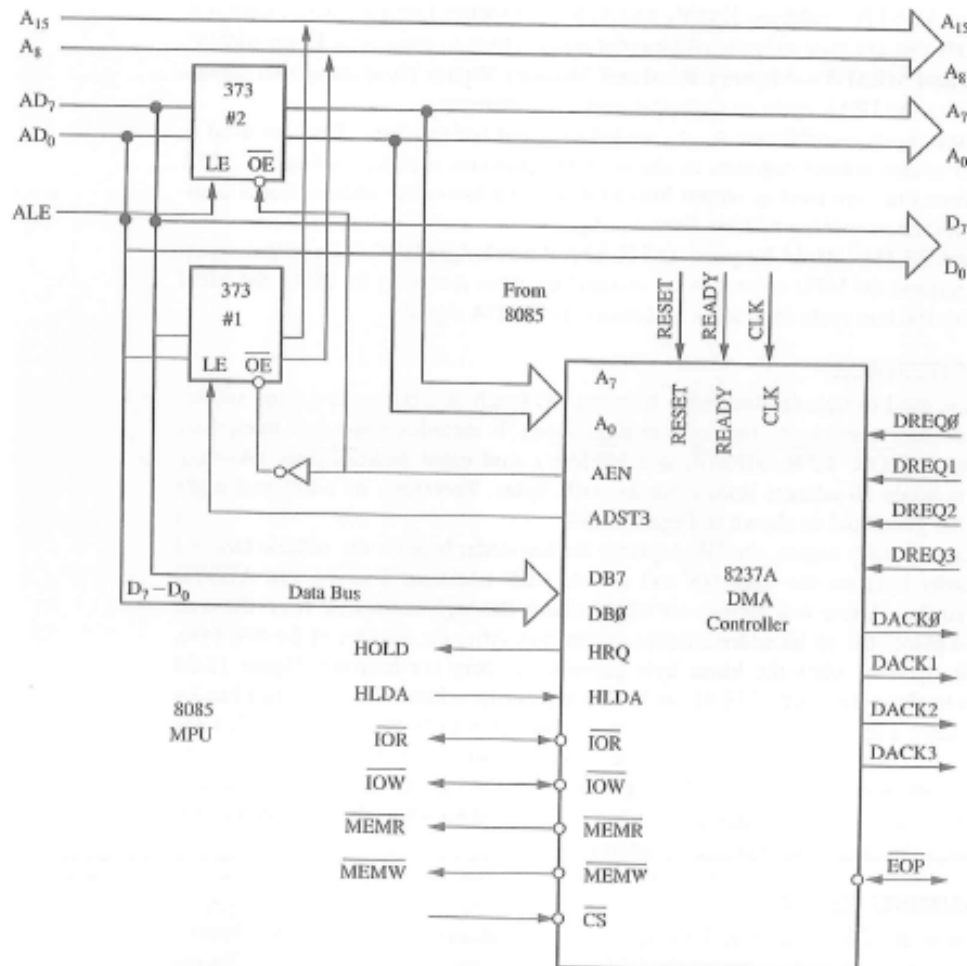

Figure 3.19 Interfacing 8237A-DMA Controller with the 8085
- ❖ Therefore, an additional eight lines must be generated as shown in figure 3.19.
- ❖ Figure 3.19 shows two latches: one latch (373#1) to latch a high-order address from the data bus by using the AEN and ADSTB signals, and the second latch